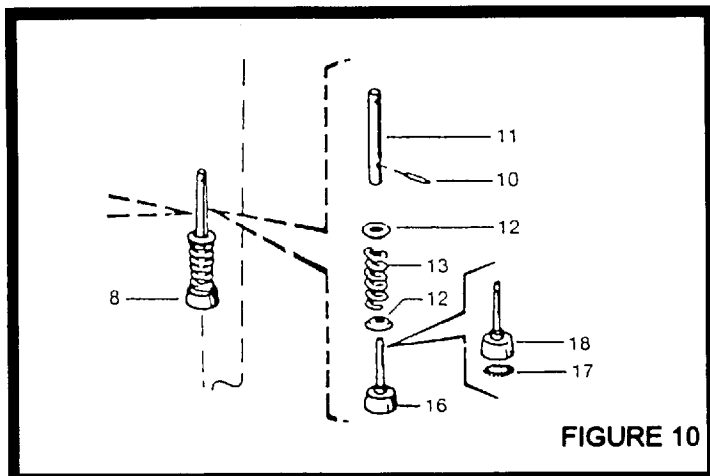
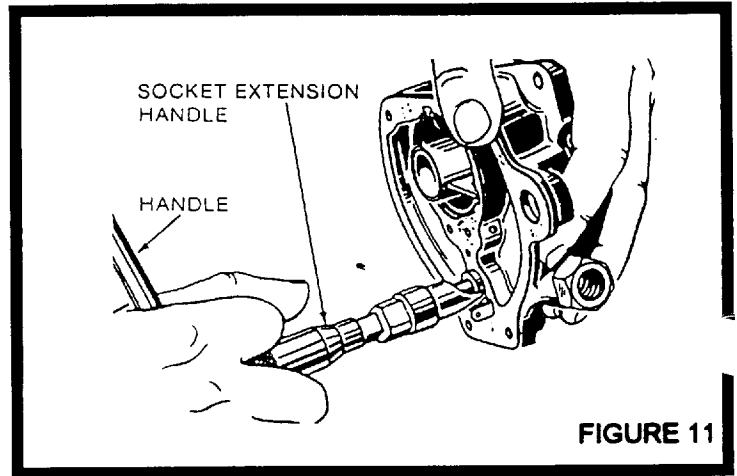

FIGURE 10
FIGURE 11
- 47) Assemble this type in accordance with this special section and Figure 10.
- Hold a spring seat (12) against each end of the spring (13) and slide the pump plunger and stem assembly (16) through the spring.
- Slide the pump plunger rod (11) over the end of the pump plunger stem (11) so that the hole at the lower end will be in alignment with the slot in the stem. Apply finger pressure
- 48) against the top spring seat (12) to compress the spring (13) far enough to permit insertion of the spring seat locating pin (10). After the pin (10) is in place, release pressure on the spring (13) to hold the pin securely in position. Press down against the top of the pump plunger rod assembly (11) to make certain that the stem on the pump plunger and stem assembly (16) will slide freely in the end of the stem.
- 49) If the pump leather expanding spring (17) was removed, install it carefully under the pump leather.
- 50) Install fuel inlet fitting-strainer assembly (46), and gasket (47). Torque fitting (46) to 10-12 foot pounds.
- 51) Install float valve seat (27), and gasket (28) using tool No. M-104. See Figure 11. Torque to 10-12 foot pounds.